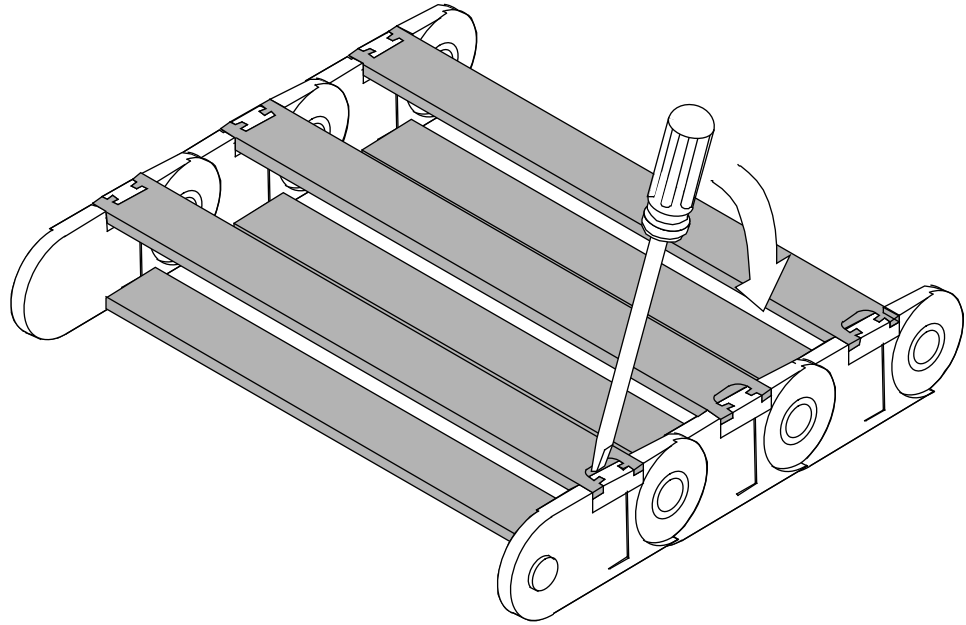

Figure 7. Flexible Cable Way Crossbars
8. Pry open each crossbar of the cable way, using a standard 1/8-in flat-bladed screwdriver and leave the inner side attached. Refer to Figure 7.